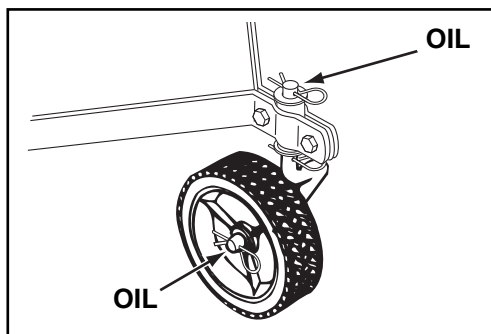

FIGURE 16
- Before each use apply a small amount of motor oil between washer and wheel bearing and between washer and top of axle bushing. See figure 16.